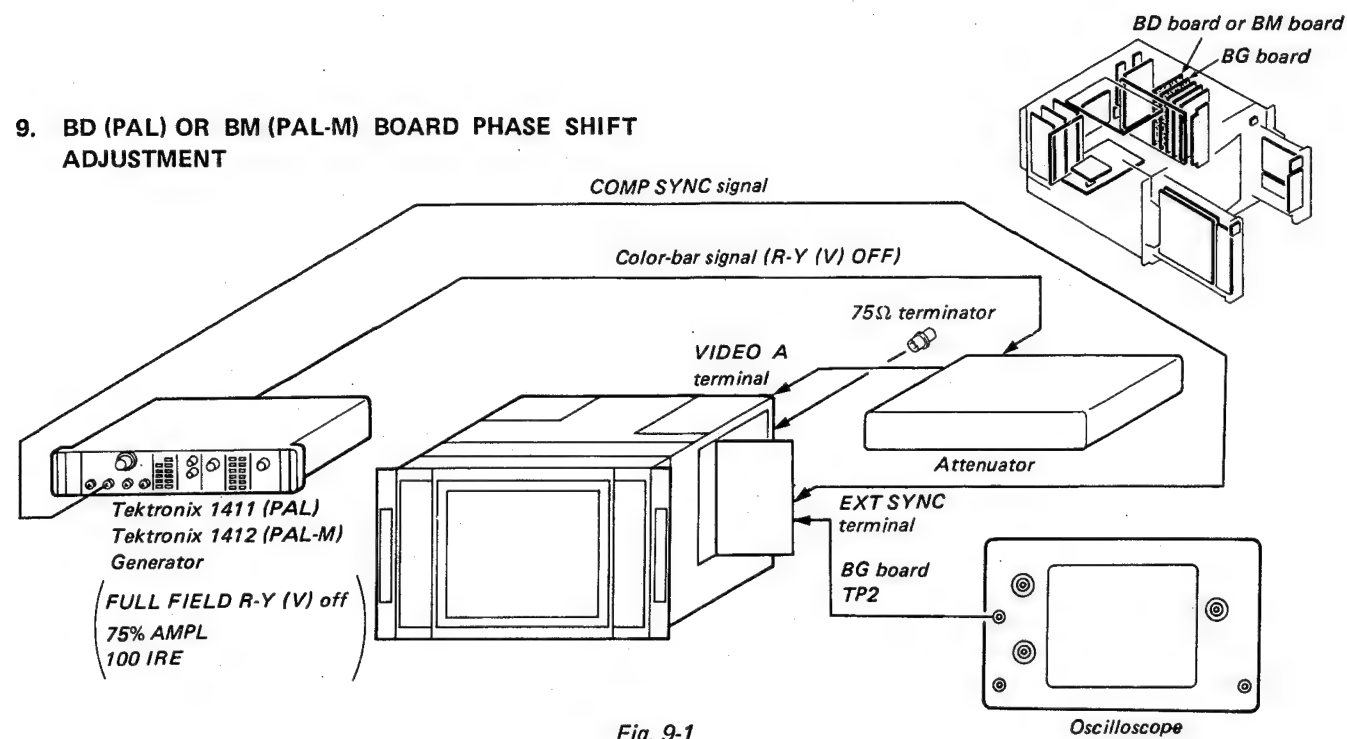

Fig. 9-1
1. Complete the connection as shown in Fig. 9-1.
- INPUT selector (FRONT PANEL (R)) ... A ()
- SYNC selector (FRONT PANEL (R)) ... EXT ()